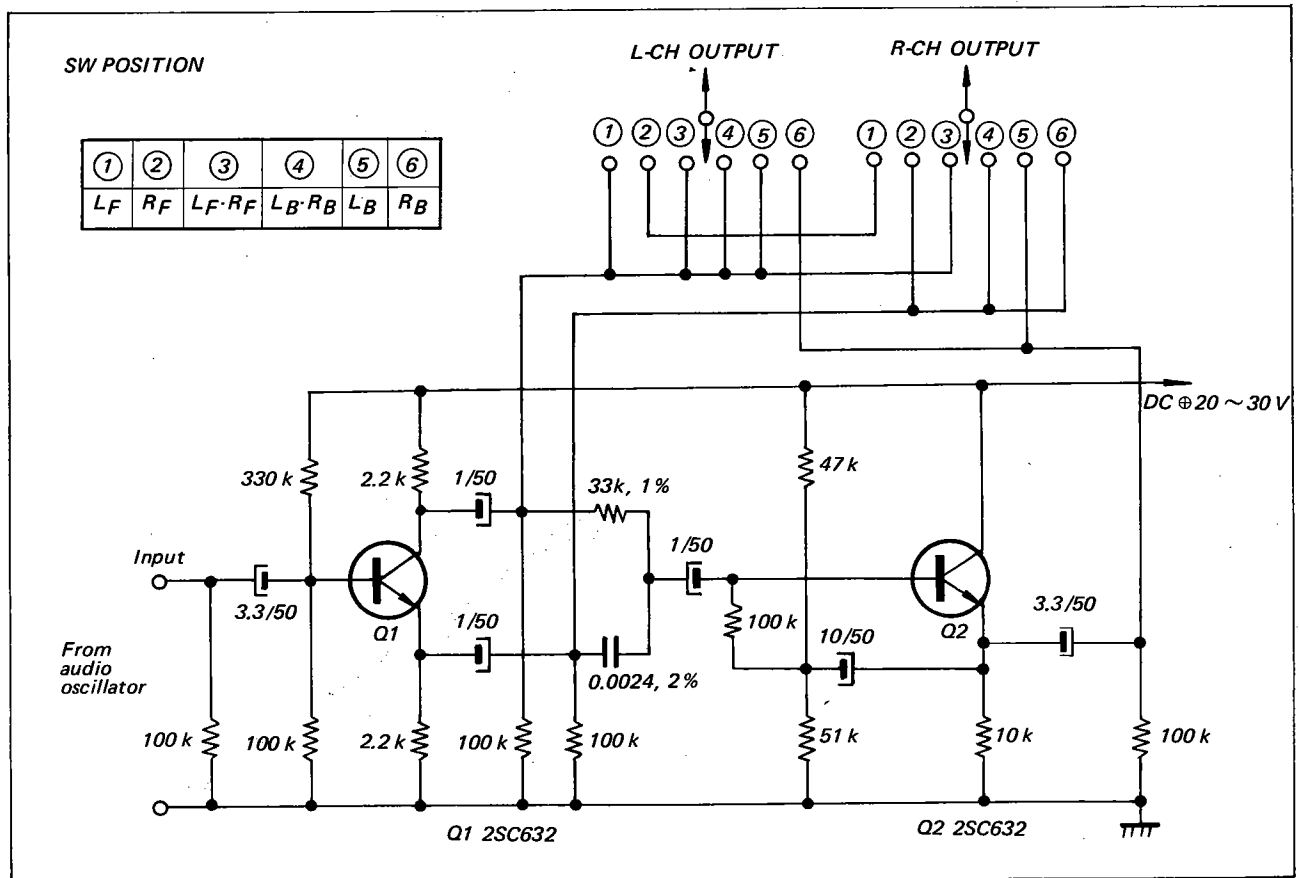

Fig. 3-1. Signal mode selector schematic diagram
SQ CHECKER Model 0005, available at each SONY Factory Service Center. The other method is by using an accurate audio oscillator and the Signal Mode Selector shown in Fig. 3-1. For accurate results with the latter method, the oscillator frequency must be set to 2 kHz \pm 1%, and precision components used where indicated on the Signal Mode Selector schematic.
- (See Fig. 3-1)